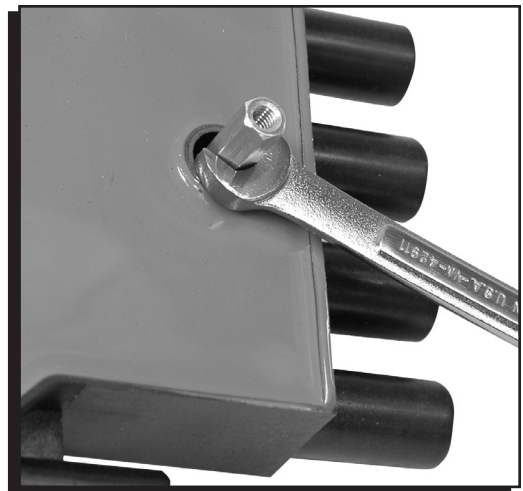

Figure 1 Removing the Original Cap.
15. Using the supplied special tool and a 1/4" wrench, remove the four screws that hold the distributor cap to the engine and pull the cap off (Figure 1).